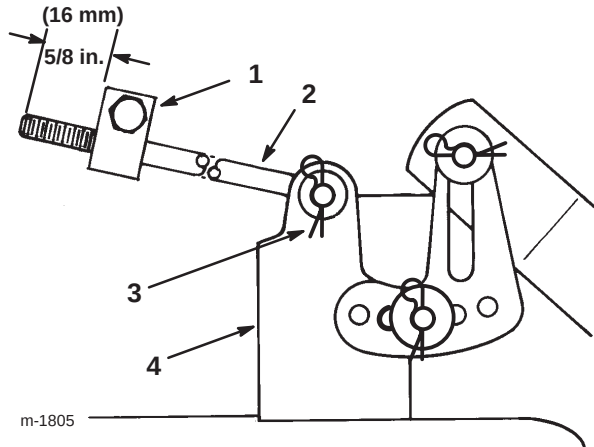

Figure 13
4. Measure the length of the rod extending out of the front of the adjusting block on the sides of the chassis (Fig. 13).
Note: If the rod length is not 5/8 in. (16 mm), remove the hairpin cotter and washer from the end of the rod (Fig. 13) and turn the rod until you obtain the 5/8 in. (16 mm) dimension.